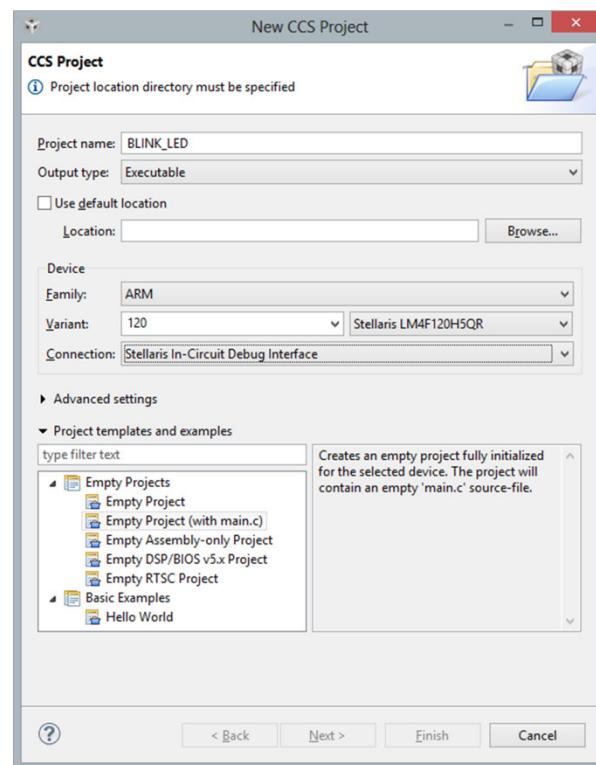

Fig. 1.6. CCS project creation wizard.
3. This opens the CCS project wizard shown in Fig. 1.6. Name your project, for example Blink_LED.